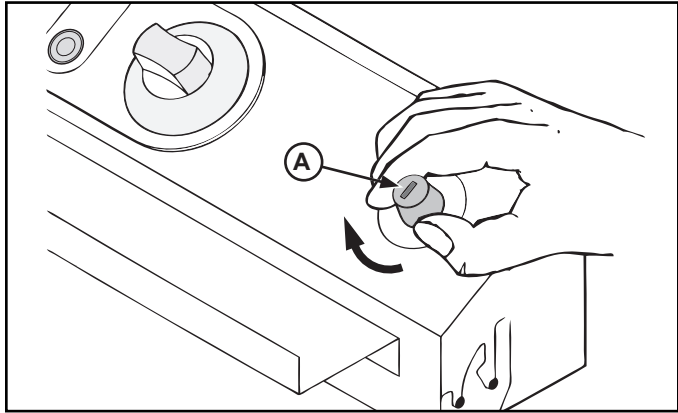

Figure 5. Switch Cover Installation
4. Replace the switch cover and secure by screwing clockwise. See Figure 5.